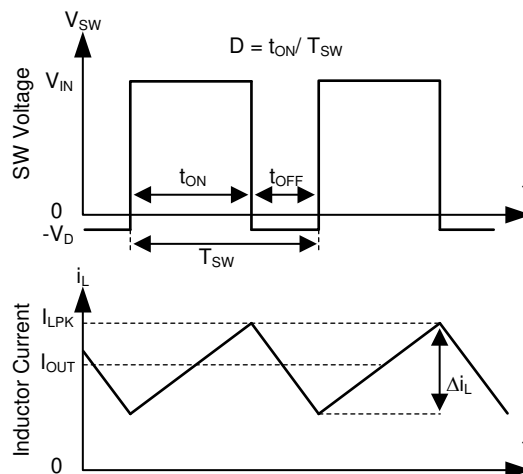

图 10-1. SW Node and Inductor Current Waveforms in Continuous Conduction Mode (CCM)
The following operating description of the TPS2583xA-Q1 will refer to the Functional Block Diagram and to the waveforms in Figure 10-1. TPS2583xA-Q1 is a step-down synchronous buck regulator with integrated high-side (HS) and low-side (LS) switches (synchronous rectifier). The TPS2583xA-Q1 supplies a regulated output voltage by turning on the HS and LS NMOS switches with controlled duty cycle. During high-side switch ON time, the SW pin voltage swings up to approximately V_{IN} , and the inductor current i_L increase with linear slope $(V_{IN} - V_{OUT}) / L$. When the HS switch is turned off by the control logic, the LS switch is turned on after an anti-shoot-through dead time. Inductor current discharges through the LS switch with a slope of $-V_{OUT} / L$. The control parameter of a buck converter is defined as Duty Cycle $D = t_{ON} / T_{SW}$, where t_{ON} is the high-side switch ON time and T_{SW} is the switching period. The regulator control loop maintains a constant output voltage by adjusting the duty cycle D . In an ideal buck converter, where losses are ignored, D is proportional to the output voltage and inversely proportional to the input voltage: $D = V_{OUT} / V_{IN}$.
The TPS2583xA-Q1 is internally compensated as shown in 图 10-1. The internal compensation is designed such that the loop response is stable over the specified operating frequency and output voltage range. The TPS2583x-Q1 is optimized for transient response over the range $300 \text{ kHz} \leq f_{sw} \leq 2300 \text{ kHz}$.